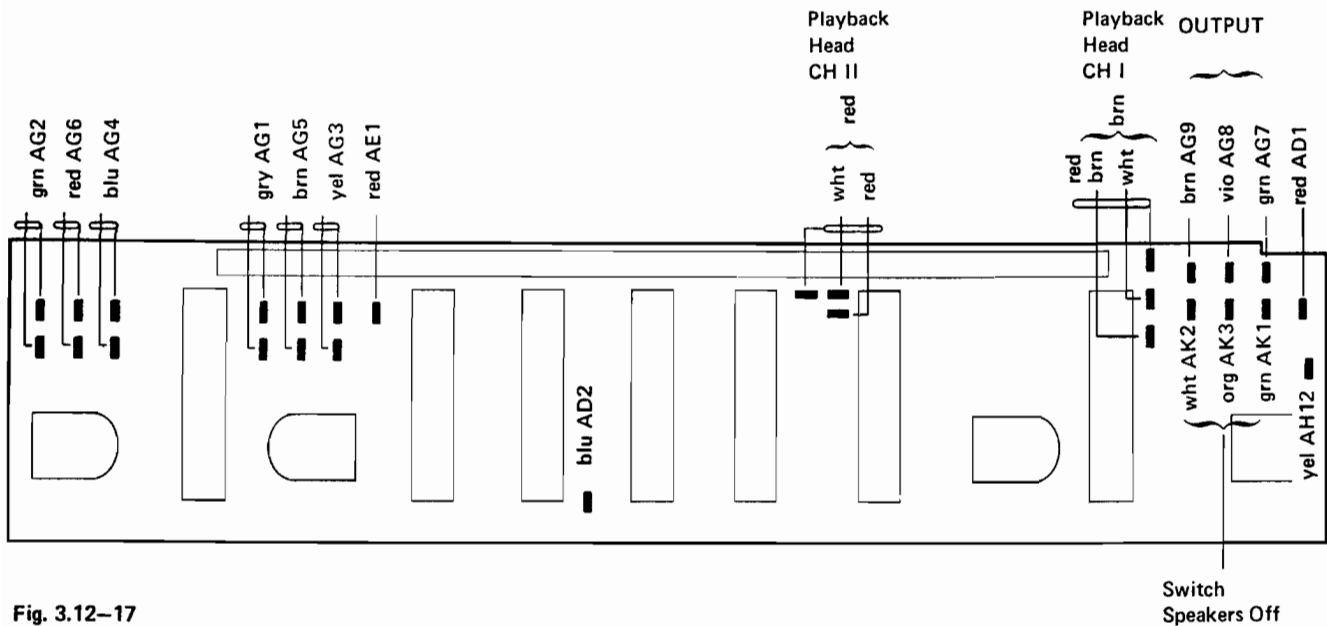

Fig. 3.12-17
- Disconnect all terminals on the switch board ( fig. 3.12-17 ).